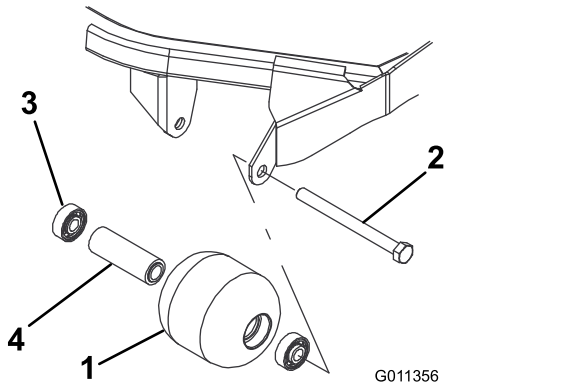

Figure 126
1. Remove the roller-mounting bolt (Figure 126).
4. Inspect the roller housing, bearings, and bearing spacer for damage (Figure 126). Replace any damaged components and assemble them.
1. Press the first bearing into the roller housing (Figure 126). Press on the outer race only or equally on the inner and outer race.
2. Insert the spacer (Figure 126).
3. Press the second bearing into the roller housing (Figure 126). Pressing equally on the inner and outer race until the inner race contacts the spacer.